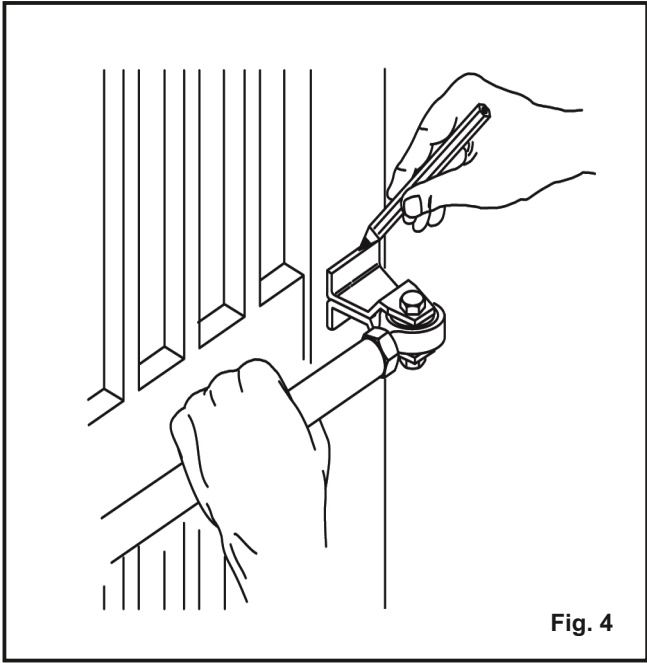

Fig. 4
G) Install the front end on the stroke (Fig. 4);
H) Close the door of the gate and, keeping the operator in perfectly level position, locate the position of a front on the wing (Fig. 4);